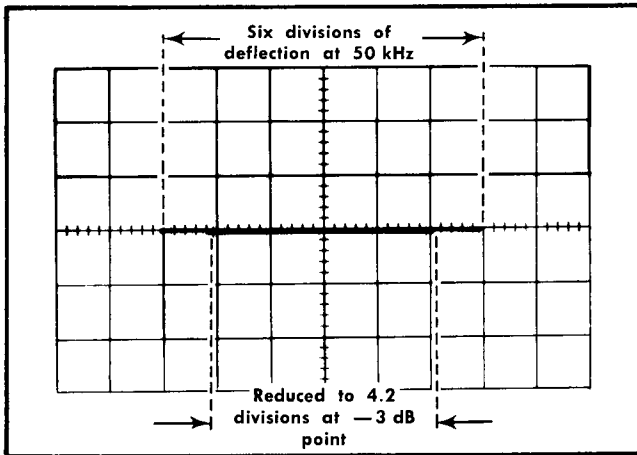

Fig. 6-60. Typical CRT display when checking X-Y bandwidth (double exposure).
- d. Without changing the output amplitude, increase the output frequency of the generator until the horizontal deflection is reduced to 4.2 divisions (−3 dB point; see Fig. 6-60).